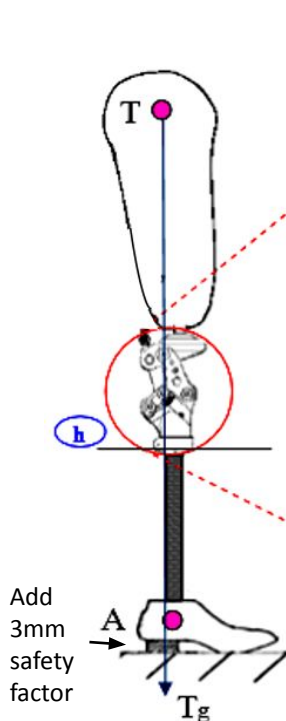
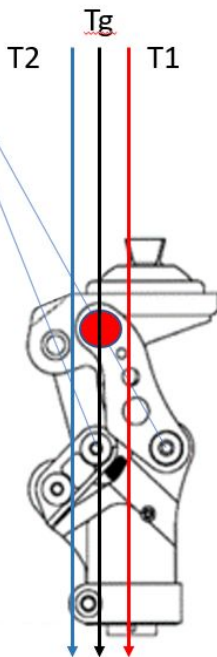

Fig. 2
Fig. 3
! Note: 4-bar knees inherently are very stable due to the geometry built into each design. This is commonly referred to as the Instant Knee Center (IKC). The IKC point when doing bench alignment, will fall behind the traditional TKA line that we will reference. (Fig. 2,3) Tg line in Fig. 3 is ideal placement, but in certain instances, it may be necessary to accommodate placement anteriorly (into the T1 zone up to 2mm), or posteriorly (into the T2 zone up to 2mm). The Tg line is referencing a moving weight bearing line, so it could be in T1, neutral, or in T2 zones.
a) With prosthesis assembled, taking into account hip flexion contractures, abduction, Line Of Progression, and toe out (Fig.2), the TKA plumb line should pass through the knee center (at the proximal/anterior pivot – red dot pivot Fig.3) and in front of the K point (IKC). Take into account shoe heel height, and add 3mm safety factor.
d) The weight line for Sagittal or A/P plane should have the plumb line passing through T (Tg) line. Ideally, Tg line should pass through the knee center (red colored pivot) and be perpendicular to the ground. (Fig. 3)
e) **When to use ZONE 1 option** - For the higher weight spectrum patients, Tg line should pass slightly into the “Zone I” area (up to 2mm), which is indicated as up to “T1” (Fig. 3) so that it will reduce stance flexion moment forces of the 5th bar. It is recommended to have controlled stance flexion action of the 5th bar, and not to lock it out or have excessively long duration of it. Excessive stance flexion moment and/or duration can be adjusted through tightening the “Flexion Control Adjusting Screw” in, and/or adjusting alignment (of socket and/or foot) into the T1 zone (up to 2mm). The goal is to have smooth transition from stance flexion to neutral mid-stance motion, and not excessive stance flexion duration.
f) **When to use ZONE 2 option** - For the lighter weight spectrum patients, such as women and children, Tg line should pass slightly into the “Zone II” area (up to 2mm), which is indicated as up to “T2” (Fig.3) so that it will increase stance flexion moment forces of the 5th bar linkage. It is recommended to have controlled stance flexion action of the 5th bar, and not excessively short duration, or abrupt motion of it. Excessive short stance flexion moment and/or duration can be adjusted through loosening the “Flexion Control Adjusting Screw” out, and/or adjusting alignment (of socket and/or foot) into the T2 zone (up to 2mm). The goal is to have smooth transition from stance flexion to neutral mid-stance motion, and not abrupt motion or excessively short stance flexion duration.
It is highly recommended that Tg line should ONLY pass through the “Red Dot”. (Fig. 3)